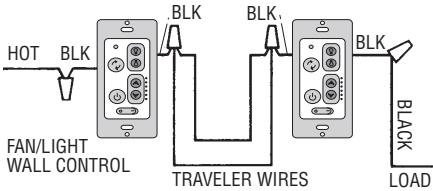

Figure 9
**NOTE: Retrofit 3-way installations are likely to include two traveler wires between the two wall boxes. In new construction, only one traveler wire is required (See Figure 9).**